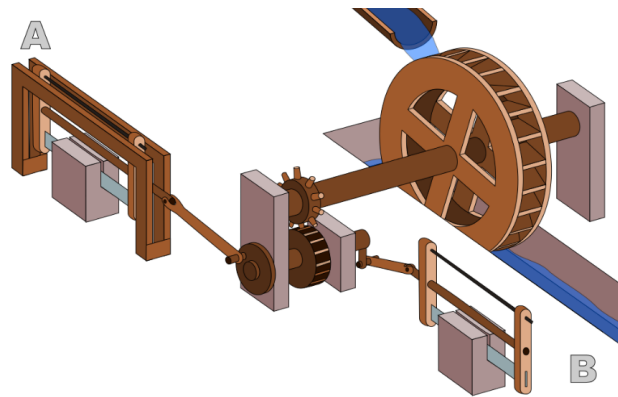

Figure 1: The Hierapolis mill and others like it created linear motion from the flow of water. The mills would have contributed
The Hierapolis water mill is a specific mill used by the Romans in what is now Turkey. Fig. 1 shows a small part of the mill, which was used to cut stone and use it as building material (4). It was the most challenging mill to build because the saw must move back-and-forth linearly in a sinusoidal pattern, and a linkage connects the saw to the main wheel structure.
Fig. 1 shows a flour mill used for grinding grain into flour. Grain is poured in between two millstones, which spin and grind it(6). A larger crown turns the smaller pinion, which completes more rotations than the crown in a given amount of time and makes the millstone turn very quickly. This mill consists of many turning parts and not much linear motion.